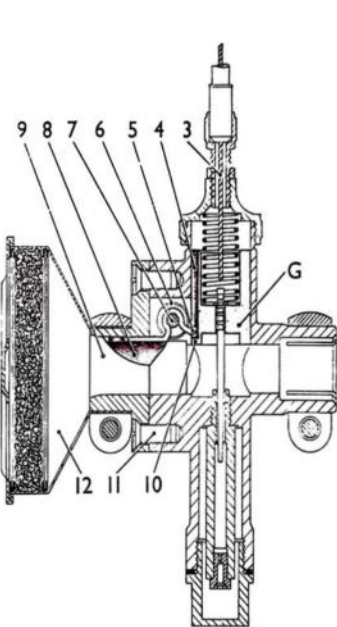
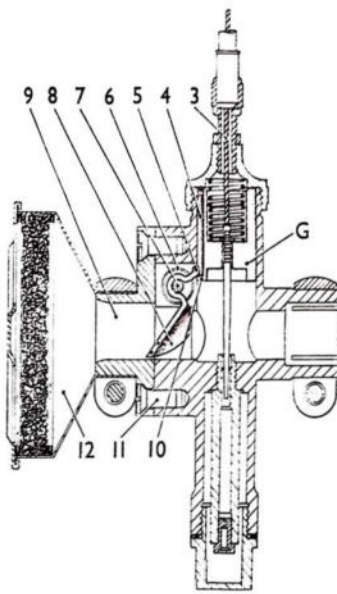

Fig. 3
Fig. 4
PREPARATION. Follow the Engine Makers' instructions about fuel mixtures, etc., verify that the ignition is in good order and that the sparking plug is clean. Now from the carburettor point of view check up to see that when the throttle lever is open and the trigger is holding against projection on the lever base, that the throttle is wide open (see Fig. 3 on page 4). To do this remove the air filter (12) and look inside. If the throttle is not wide open then adjust the cable adjuster (A) to bring the bottom of the throttle level with the cross bore in the mixing chamber.
Observe at the same time the action of the strangler (8) by depressing the trigger (2) on the lever (1) and over-opening the throttle (see Fig. 4 on page 3). Bring back the throttle lever to the shut position and note that the throttle shuts easily.
Dealing with the mechanical operation of the strangler (B) this is a spring loaded beak situated in the air intake of the carburettor, which has a tail (5) which engages with a slot machined in the throttle valve (4). This beak strangler is normally held by a return spring (6) in a fully open position, that is, offering no obstruction to the passage of air through the main air intake. When the throttle valve (G), however, has moved up to its full throttle position (see Fig. 3), the end of the slot previously referred to presses against a tail (5) on the other end of the strangler (B), with the result that on over-opening the throttle valve (see Fig. 4 on page 5) this firmly closes the strangler valve and restricts the passage of air through the main air intake.